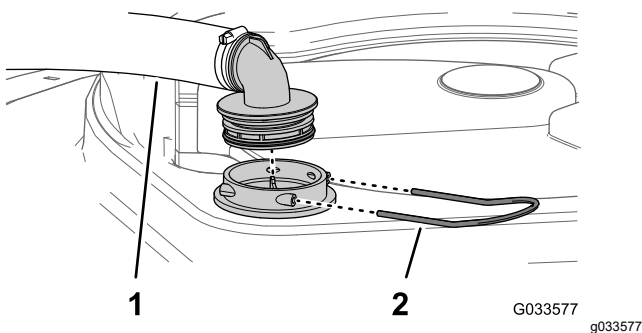

Figure 144
2. At the top of the sprayer tank, remove the retainer that secures the hose fitting attached to the large hose from the filter housing (Figure 144).
3. Remove the hose and hose fitting from the filter housing (Figure 144).